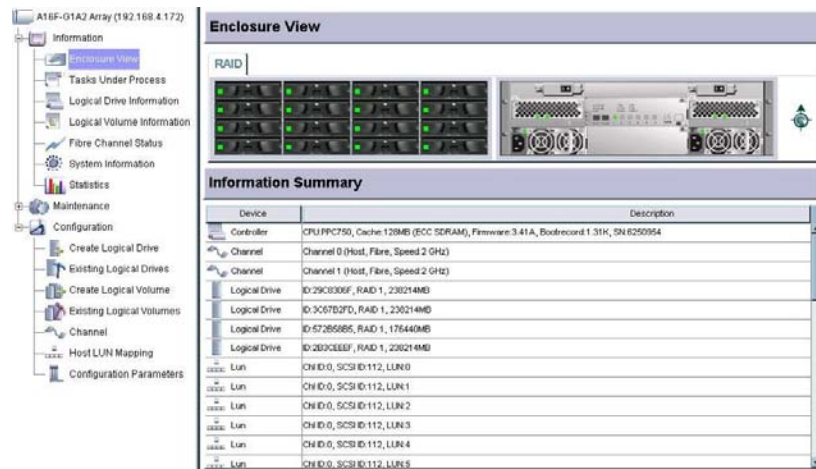

Figure 1-1: Enclosure View Window
*Figure 1-1* in *Chapter 1* was changed to show a rackmount enclosure. *Section 3-1* in *Chapter 3* was divided into two sections: "Using Windows – RAIDWatch Installed as In-Band" and "Using Web Browser – RAIDWatch Installed as Applet." *Section 3.5*, "Rebooting the Controller," was also added. Modifications to *Table 14-1* were also made.
The enclosure window shown in *Figure 1-1* provides real-time reporting of the status of enclosure components, including components that can be accessed through the front or the rear side of an enclosure. When a drive fails, the system highlights the corresponding LED icon of the failed drive by changing its display color. When you remove a drive, its icon is removed from the enclosure window. This feature is particularly useful in cases when a drive fails, and you need to identify its exact location for subsequent replacement.